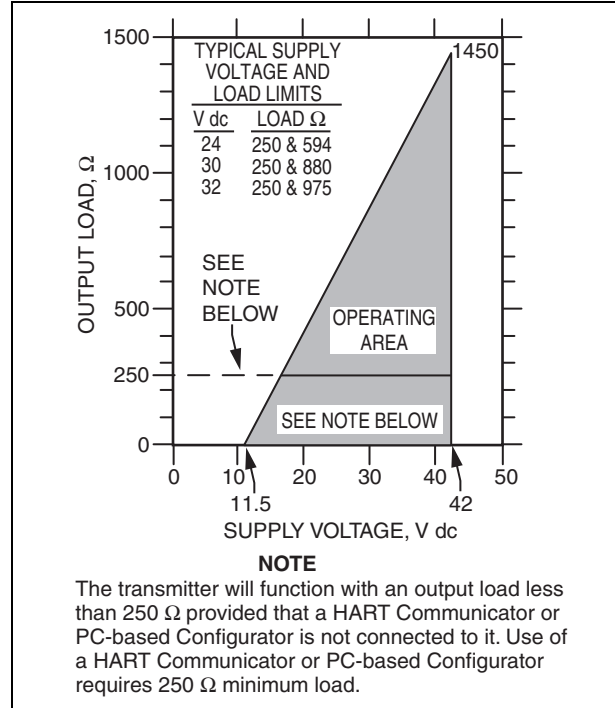

Figure 3. 4 to 20 mA Output, Supply Voltage vs. Output Load
**HART 4 to 20 mA Output (Figure 3)**
**4 to 20 mA (Figure 3)**